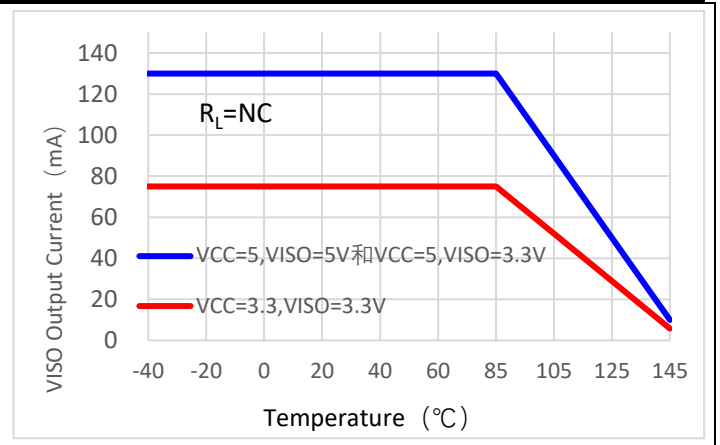

Figure 7-14.
1. $DE = V_{CC}, \overline{RE} = 0\text{V}, DI = 0\text{V}$ or V_{CC} ; The available output current from V_{ISO} will be reduced when $T_A > 85^\circ\text{C}$, see Figure 7-14. the maximum output current of V_{ISO} vs. temperature.